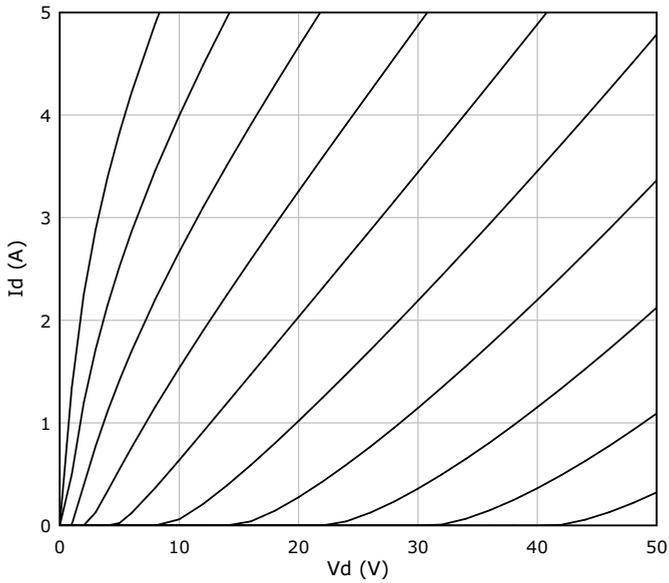

Figure 5 2SK82 curves based on eq. (5).
Figure 5 is a set of curves for the Sony 2SK82 produced with equation (5).